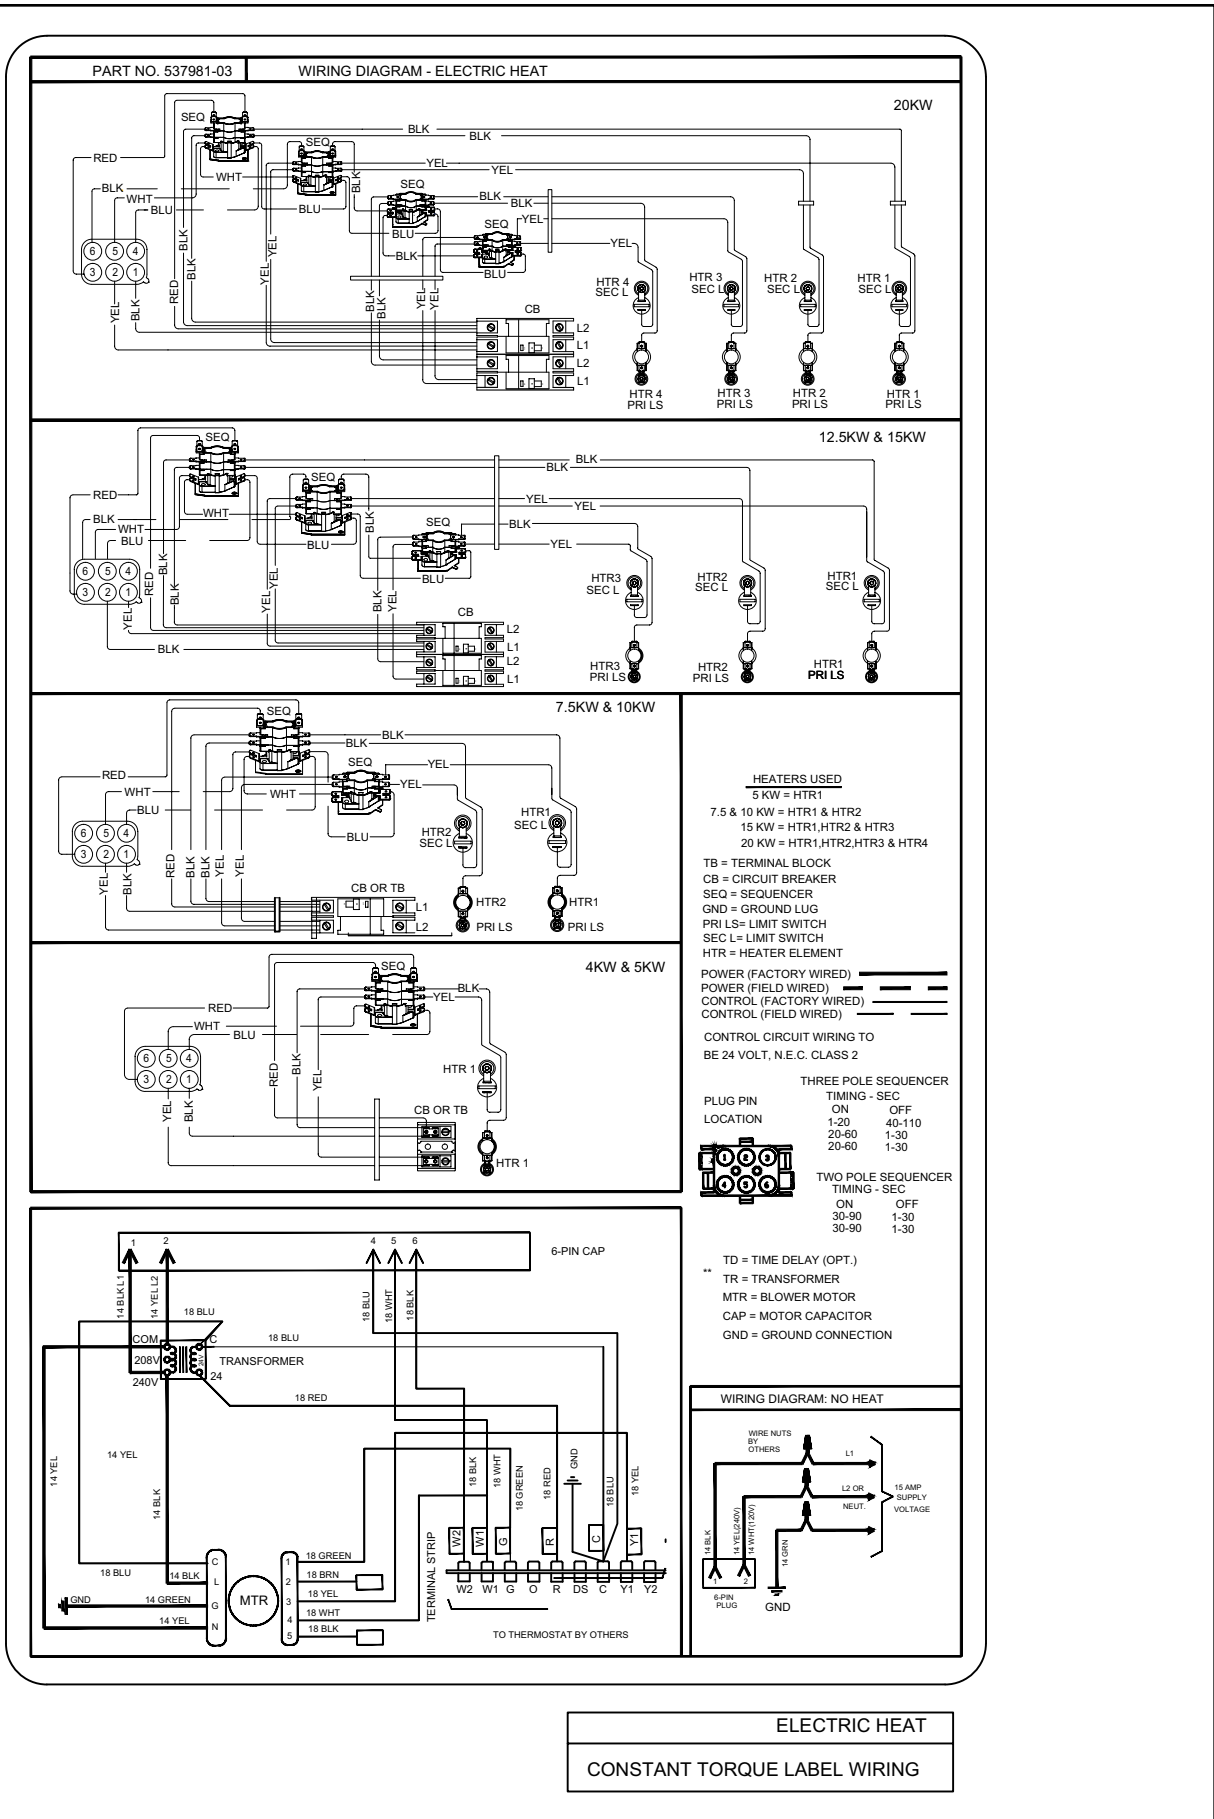

Figure 16. Typical Wiring Diagram – BCE5E Air Handler with Electric Heat – (Constant Torque Motor) (All models)
- Typical unit wiring (as well as wiring of optional field-installed electric heat) is given in Figure 16. Refer to the instructions provided with the electric heat section for proper installation.